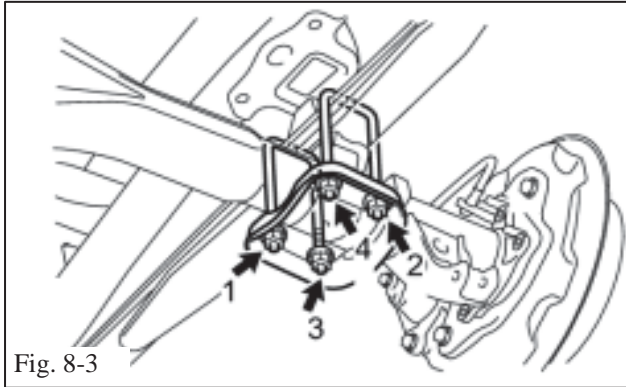
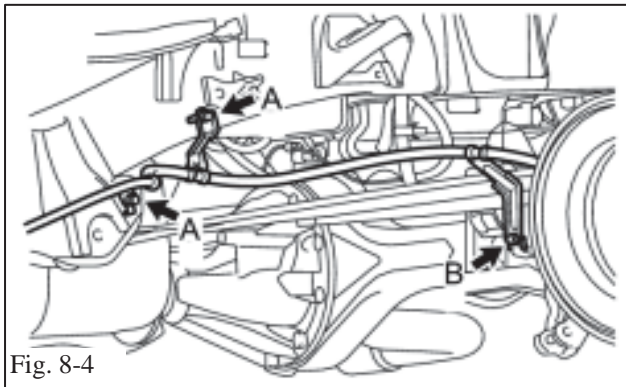

Fig. 8-3
Fig. 8-4
- (1) Tighten the nuts in the order shown. (Fig. 8-3)
- (2) Install the U bolts so that the lengths of the 4 ends under the spring seat are the same.
- (f) Connect the parking brake cable to the vehicle with the 3 bolts and torque to **19 N·m (194 kgf·cm, 14 ft·lbf)** (Fig. 8-4)